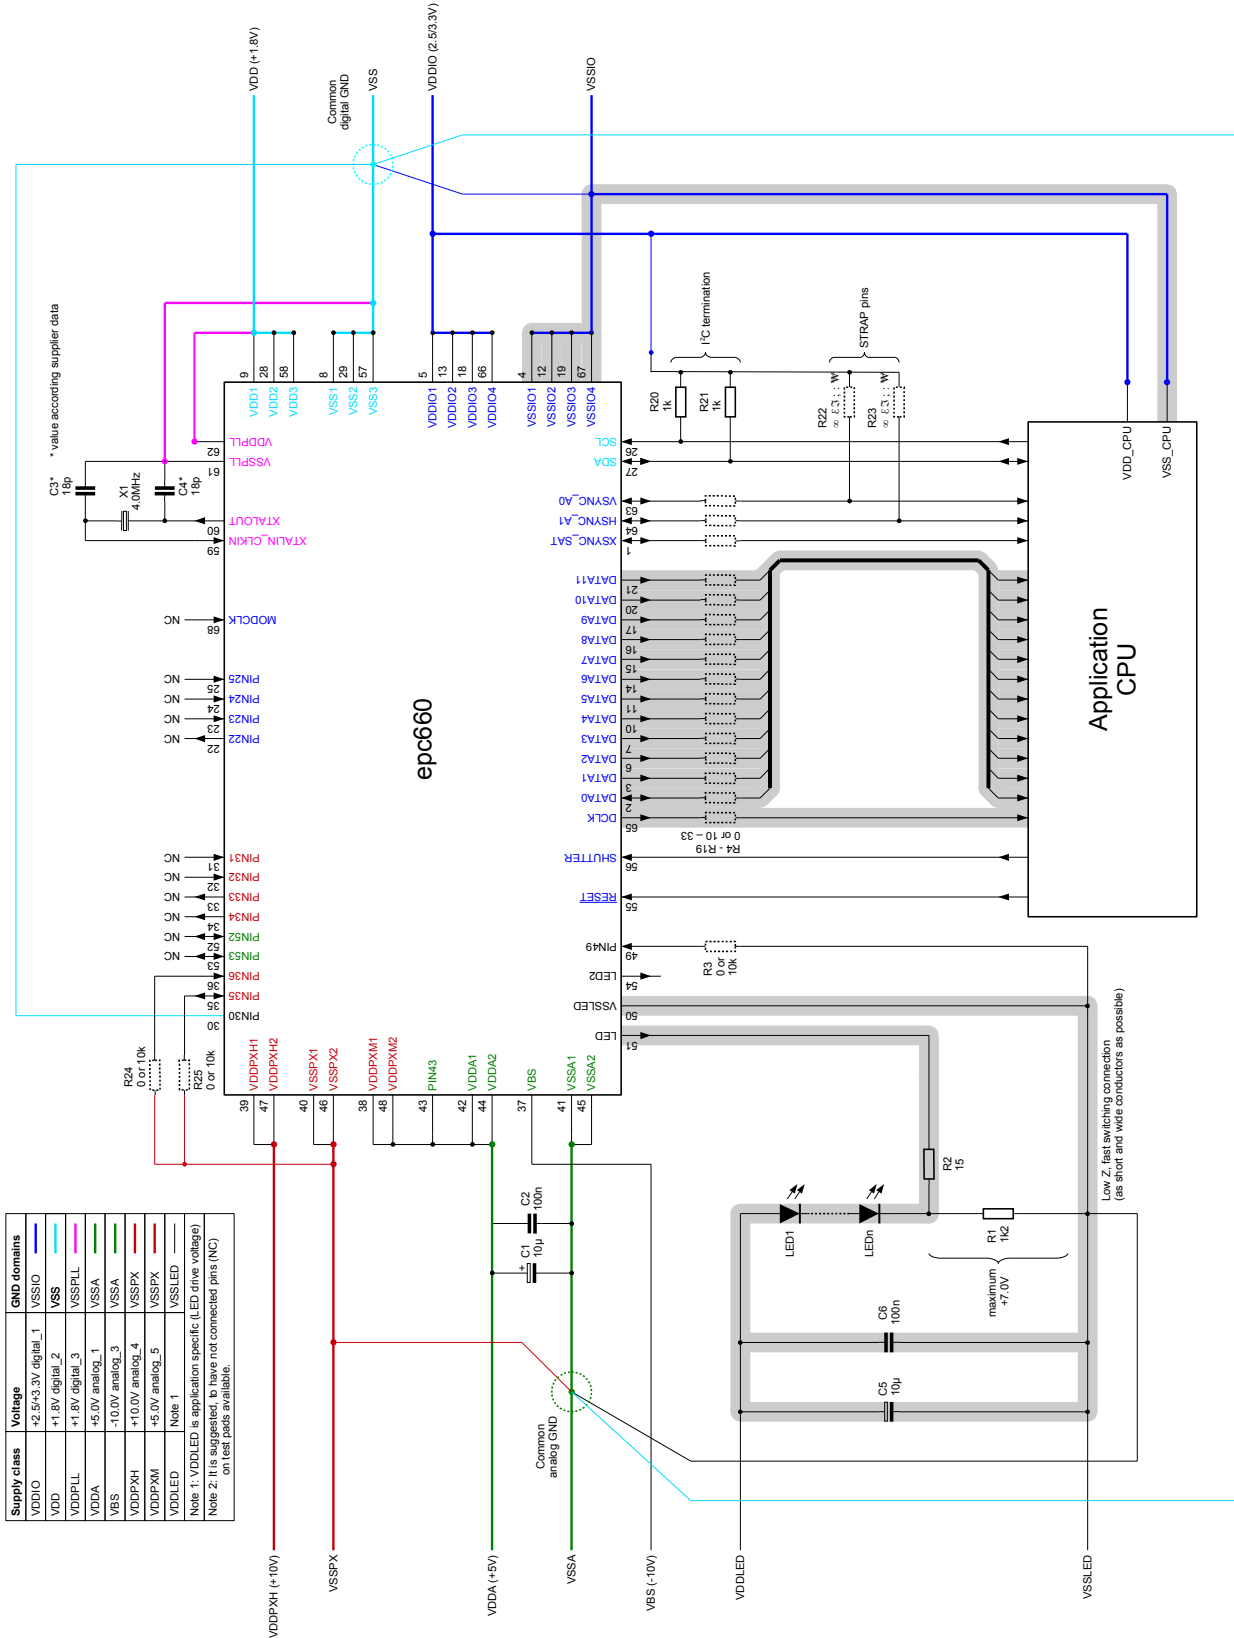
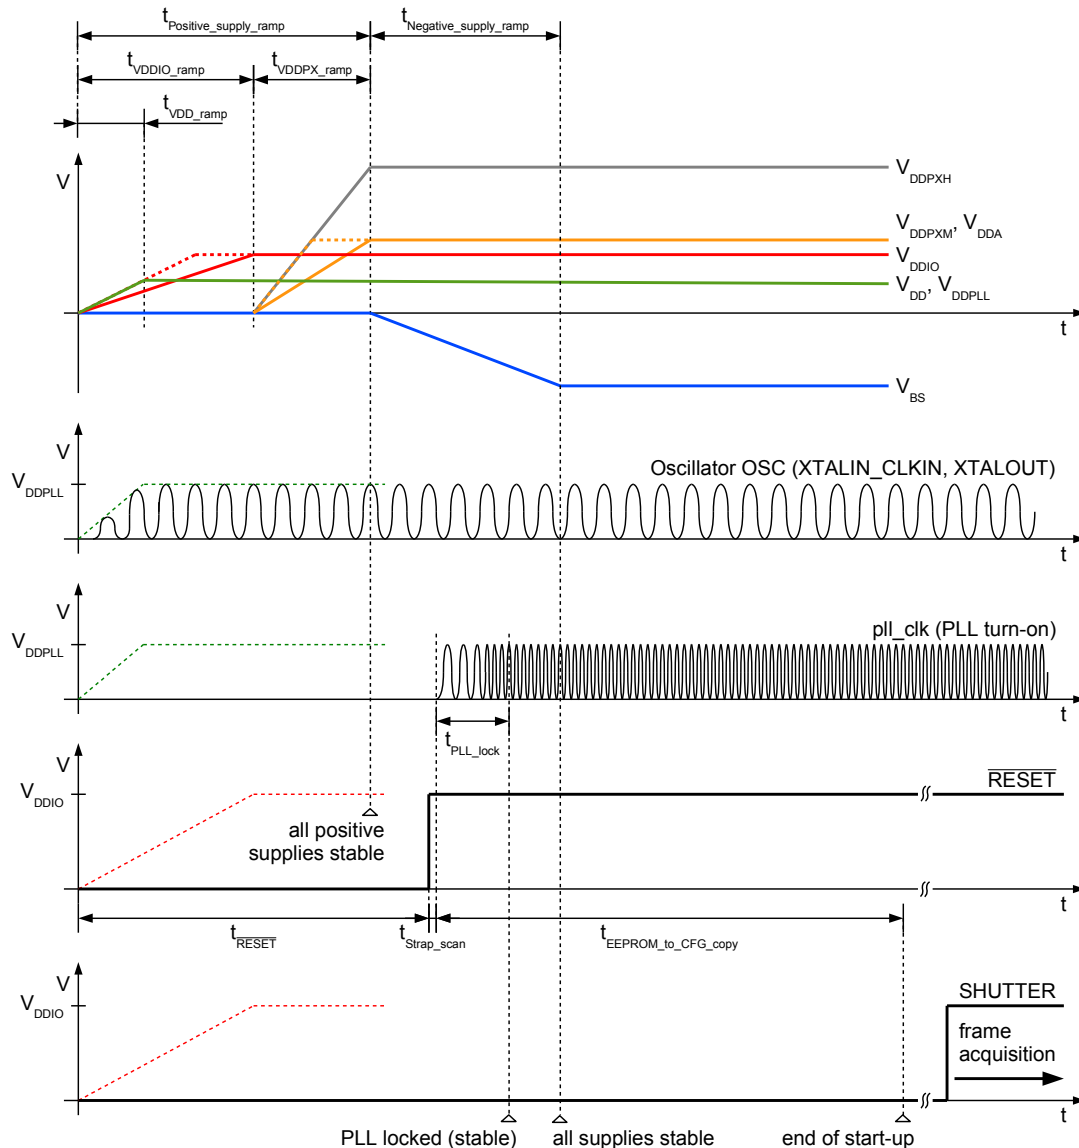

Figure 14: Typical application diagram
Figure 18: Power-up and reset sequence
Table 10: Values of component related to epc660 chip, see Figure 14
1. epc660 is supplied with +1.8V, +2.5/3.3V, +5V, +10V and -10V. See Figure 14.
3. +1.8V is used for supplying the digital logic (VDD), the on-chip oscillator OSC and the phase-look-loop PLL (VDDPLL). These supplies are marked in the application diagram as VDD and VDDPLL respectively (Figure 14). Their supply wiring must be separated from the digital wires and physically isolated from each other. The XTAL/OSC and PLL are critical parts of the chip which directly impacts the optical system performance (i.e. distance calculation). Thereof, the VDDPLL supply needs a well decoupling from VDD, because the digital logic creates some internal switching noise on VDD.
5. +5V is used for supplying analog blocks of the chip e.g. pixel-field drivers and ADC readout circuitry. Refer to Figure 14.
16. Pins not listed here have to be connected according Figure 14.
During the power-up sequence, VDD and VDDPLL supplies (Figure 18) must be applied at the same time to the epc660. VDDIO can be applied either at the same time or after VDD and VDDPLL supplies become stable. In a system where VDDIO voltage is connected in parallel to application CPU IO supply pins (see Figure 14), VDD and VDDPLL can be generated by a linear regulator directly from VDDIO supply. In this case, all these three supplies ramp together.
The epc660 starts using either the internal 4MHz oscillator OSC with a crystal/resonator (Figure 14) or an external 4MHz clock, followed by an EEPROM copy sequence in parallel to the PLL turn-on phase. This is the factory default configuration. Several configuration registers are modified by copying the EEPROM content (Figure 60, i.e. overwrite reset values). The EEPROM copy step takes 340µs after the RESET is released.
The epc660 has output pins with dual/alternative functionality for PCB level flexible start-up configuration changing, called 'strap pins'. RESET release is followed by a strap pin scanning step. The chip programs its strap pins as inputs with internal pull-down resistors enabled for 4 osc\_clk periods (refer to Table 1 and Table 3.). If there is no external pull-up resistor connected, the corresponding strap pin will be scanned as logic 0 due to the internal pull-down resistor. If there is an external pull-up resistor connected (Figure 14), it will override the internal pull-down and corresponding pin will be scanned as logic 1. After the strap scan period, pins are programmed back as outputs so that they can be used for their main function. Strap pins and their definitions are listed below (Table 11).